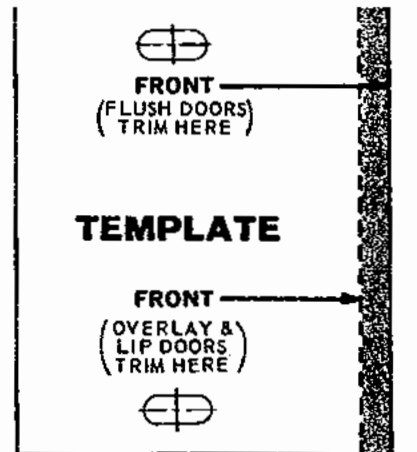

Fig. 2
1. For flush doors (Fig. 1 below), trim template to solid line indicated by arrow on template. For overlay and lip type doors (Fig. 2 and 3 below), trim template to dashed line indicated. To locate mounting screw holes, position paper template on mounting surface with trimmed edge flush with the inside surface of the door when door is in fully closed position.